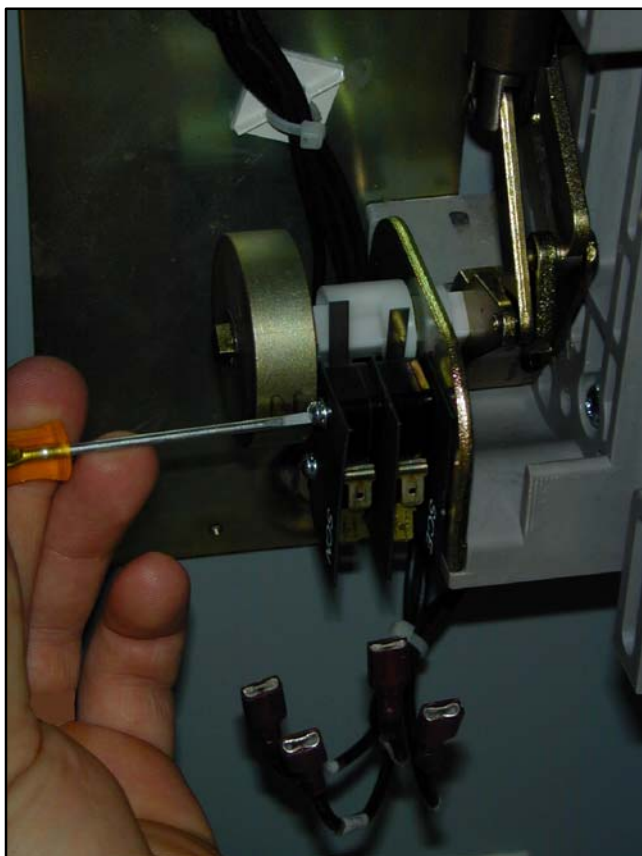

Figure 7-48 Microswitch Installation
11. Reinstall the microswitch assembly. See Figure 7-48.